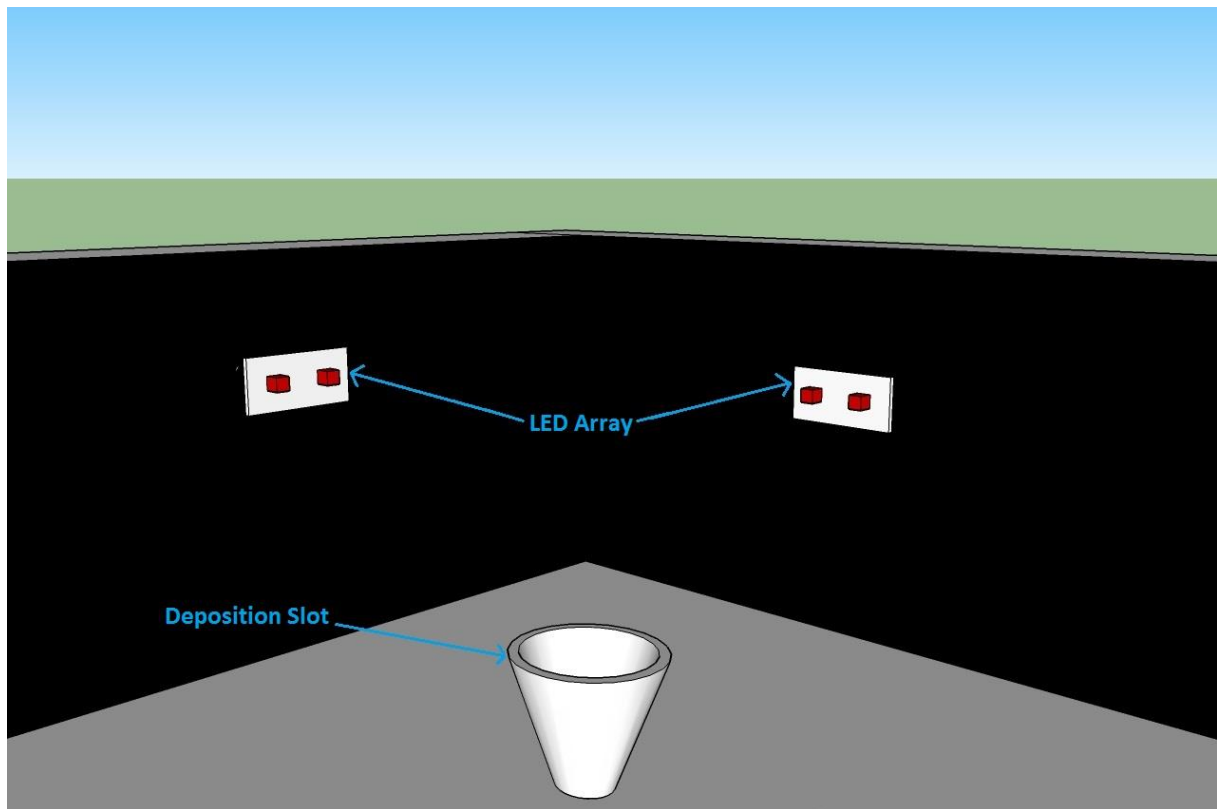

Figure 2: An instance of a fire with a Deposition Slot
- **Fire:** To represent a fire, we use an array of four red LEDs (in pairs of 2), instead of an actual candle, as shown in Figure 2. Henceforth this array is interchangeably referred to as **LED Array** or **fire** in this document.